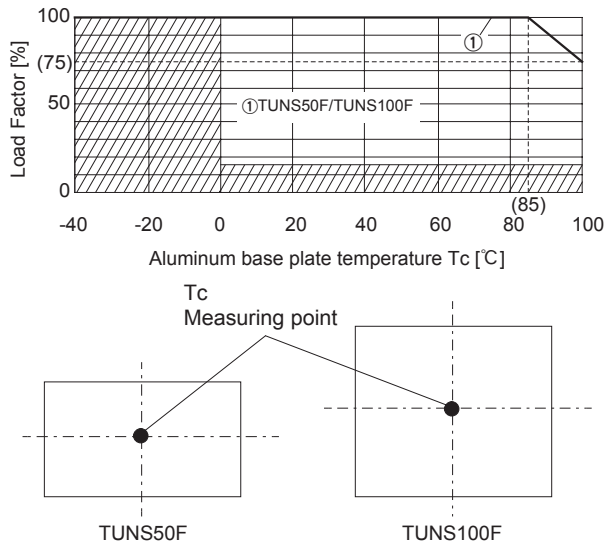

Fig.6.3 Derating curve
(2) Output voltage derating curve
- Use the power modules with conduction cooling (e.g. heat dissipation from the aluminum base plate to the attached heat sink). Fig. 6.3 shows the derating curves with respect to the aluminum base plate temperature. Note that operation within the hatched areas will cause a significant level of ripple and ripple noise.
- Please measure the temperature on the aluminum base plate edge side when you cannot measure the temperature of the center part of the aluminum base plate. In this case, please take 5deg temperature margin from the derating characteristics shown in Fig.6.3. Please reduce the temperature fluctuation range as much as possible when the up and down of the temperature are frequently generated. Contact us for more information on cooling methods.